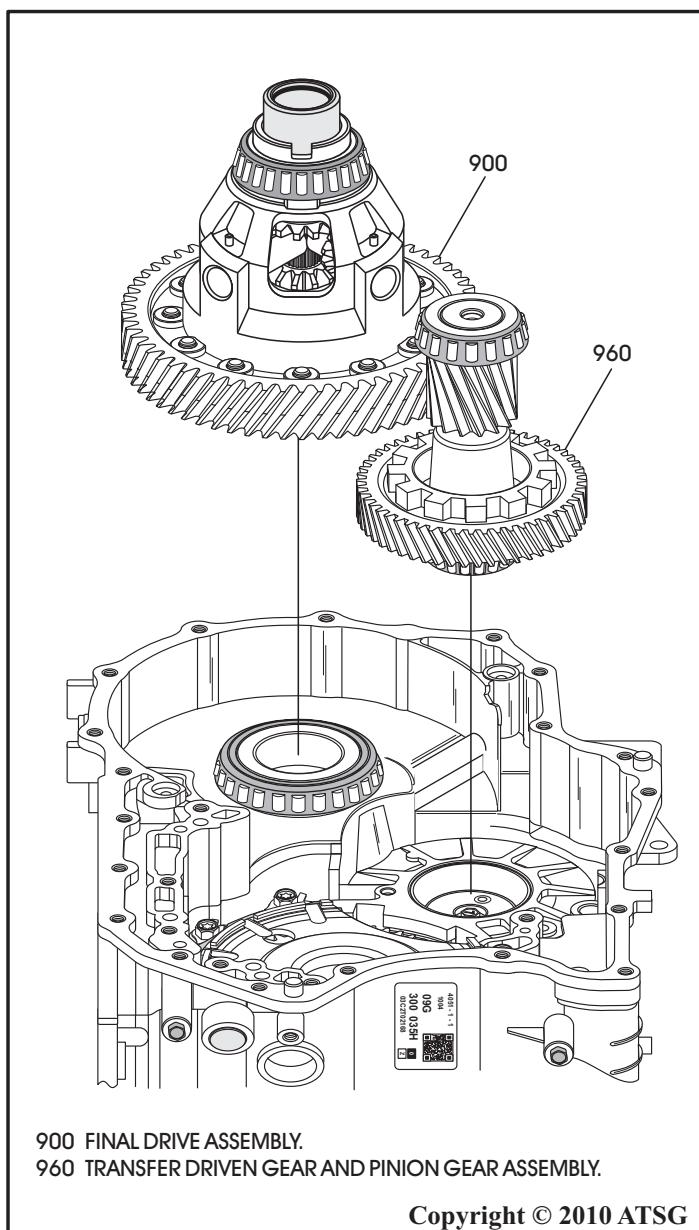

Figure 80
59. With the parking pawl removed, you can now remove the transfer driven gear and pinion gear assembly and the final drive assembly, as shown in Figure 80, and set aside for the component rebuild section.